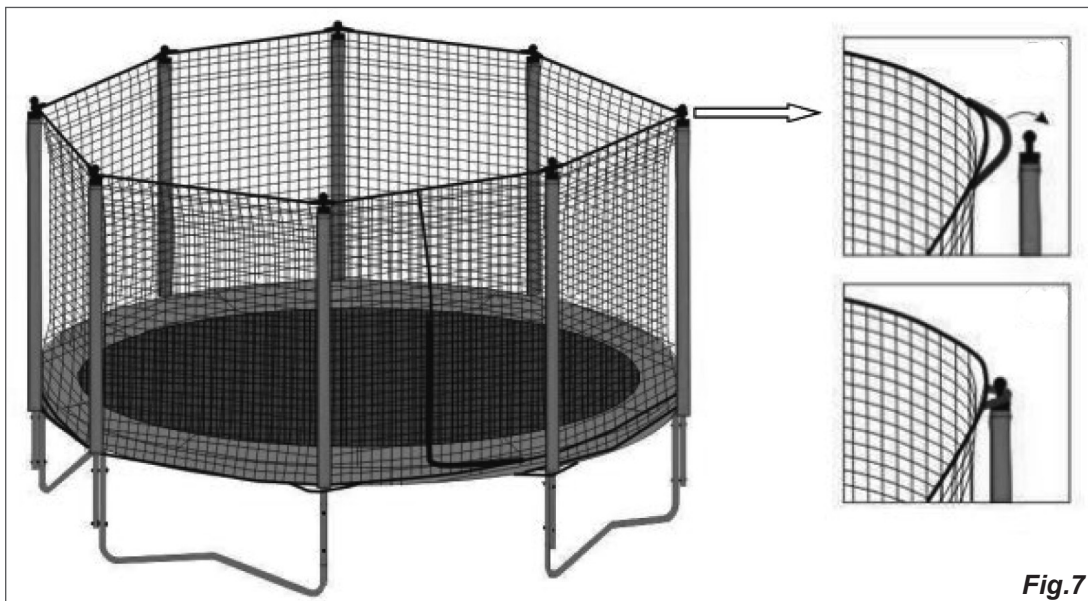

Fig.7
Step 5: Spread the net out on the bounce mat W where you want the entrance to be and begin to hang the top of the net over the pole caps with the integral hanging points (Fig.7).